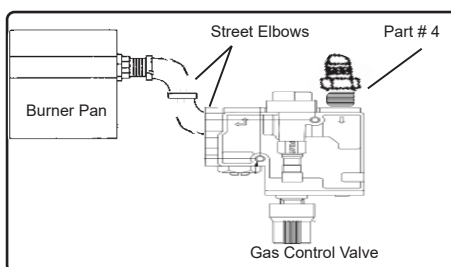

Figure 8 Top View of Valve
E. Attach the 3/8” straight Flared Fitting (Part #24) to the “IN” position of the Gas Control Valve using pipe sealant (See *figure 8 on page 3*).
Screw the 3/8” threads of the first elbow into the outlet of the second. Apply pipe sealant to the male threads of the elbow and attach it to the control valve outlet (See *Figure 8*).
- J. The valve assembly can be rotated to horizontal, and to allow it to rest on the fireplace floor. Simply rotate the entire valve assembly by turning the 3/8" Street Elbow (connected to burner orifice) with a wrench (See Figure 8).